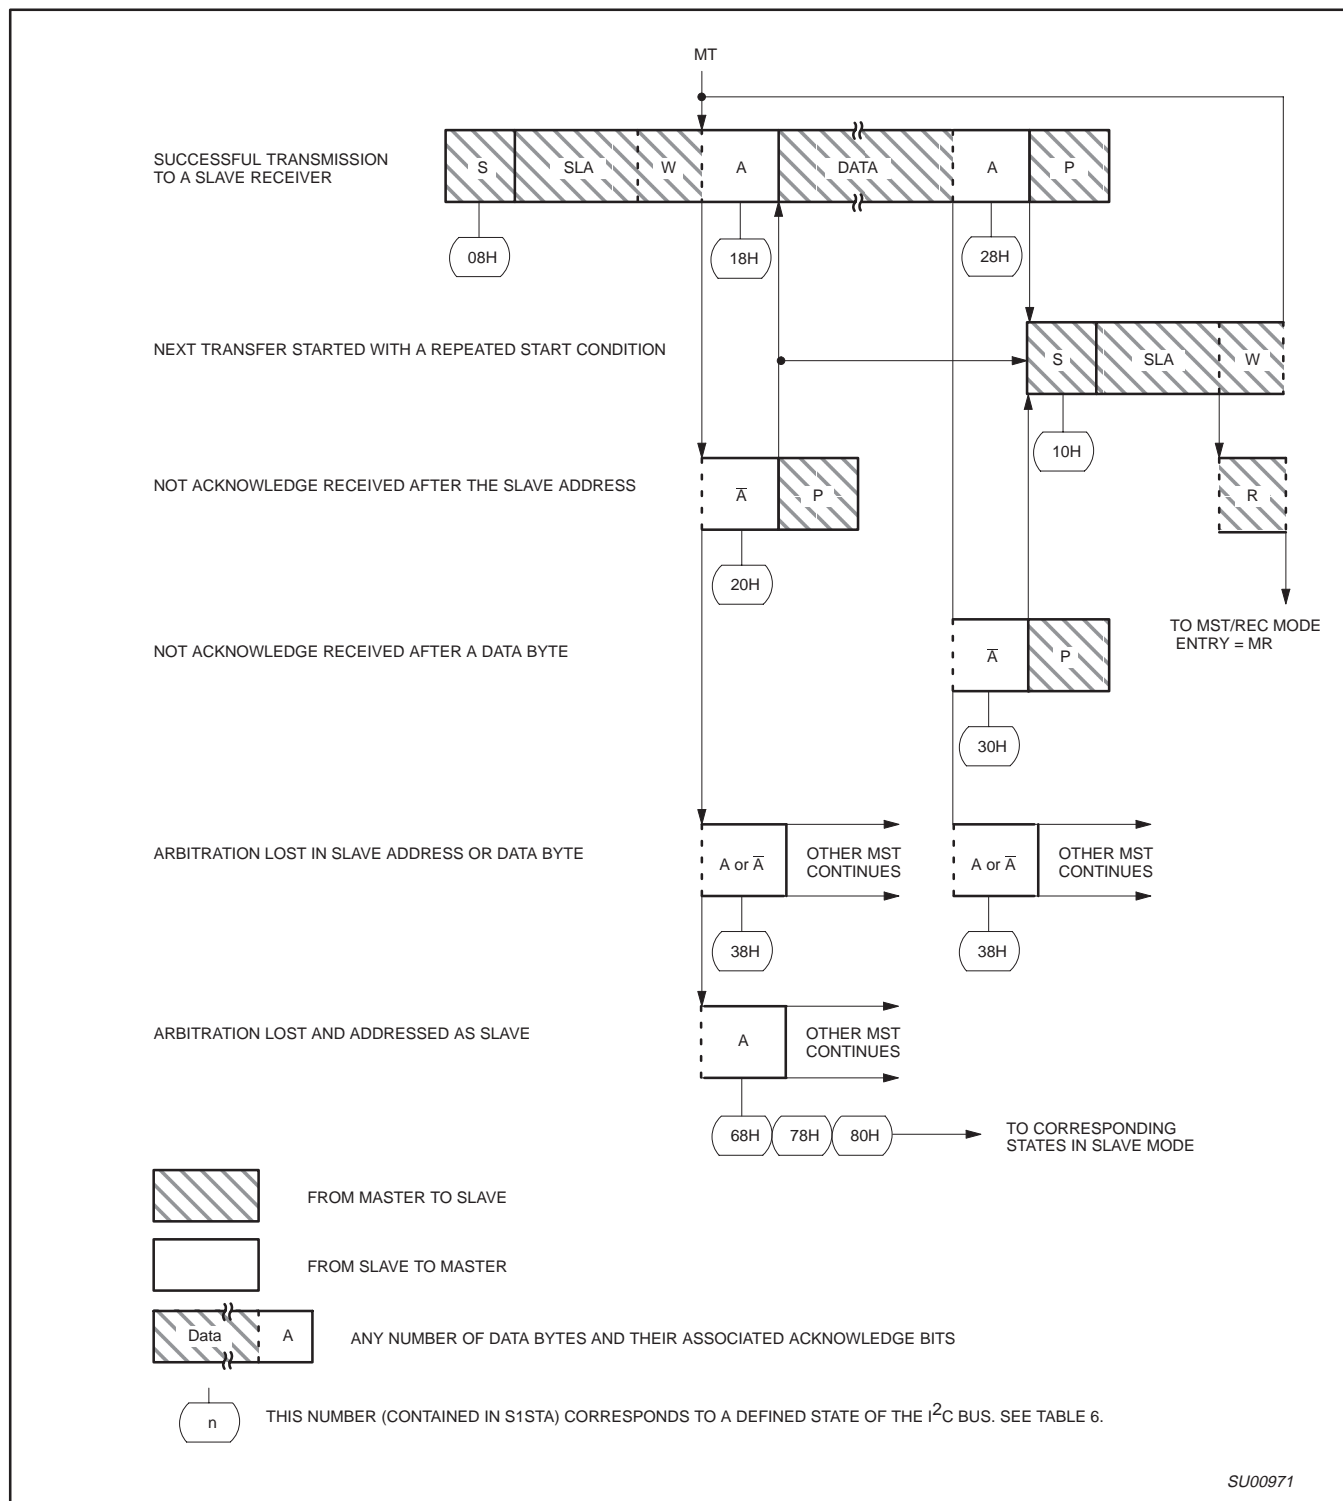

Figure 39. Format and States in the Master Transmitter Mode
Data transfers in each mode of operation are shown in Figures 39–42. These figures contain the following abbreviations:
In Figures 39–42, circles are used to indicate when the serial interrupt flag is set. The numbers in the circles show the status code held in the S1STA register. At these points, a service routine must be executed to continue or complete the serial transfer. These service routines are not critical since the serial transfer is suspended until the serial interrupt flag is cleared by software.
**Master Transmitter Mode:** In the master transmitter mode, a number of data bytes are transmitted to a slave receiver (see Figure 39). Before the master transmitter mode can be entered, S1CON must be initialized as follows: